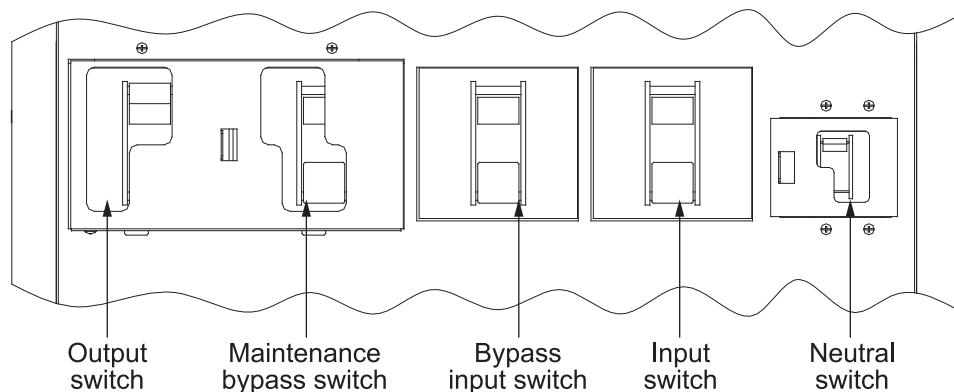

Figure 6-8: 80-120kVA Optional Internal Maintenance Bypass Switch arrangement
1. Loosen the screws that fix the cover over the maintenance bypass switch and slide the cover to the right. This action will signal the UPS to transfer to static bypass. Refer to Figure 6-8 for switch arrangement.